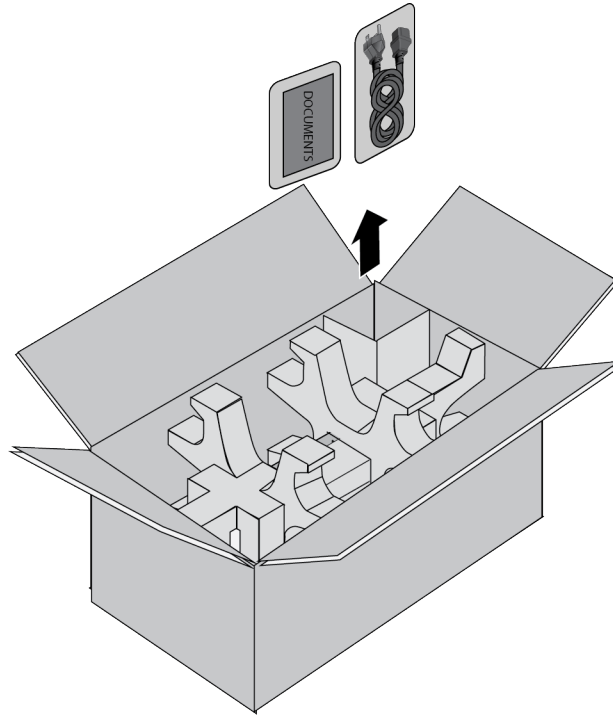

Figure 51. Removing the Power Cord and Documents from the PWR600 AC Power Supply
1. Remove the power cord and any documents from the accessory partition. Refer to Figure 51.